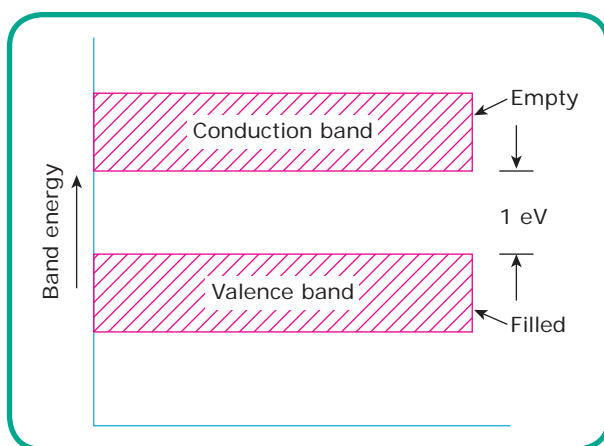

Figure 3.16 Energy band of semiconductor
- c) **Semiconductors:** Semiconductors (e.g. Germanium, Silicon, Graphene, etc.) are those substances whose electrical property lies in between conductors and insulators. In terms of energy band, the valence band is almost full but the conduction band is empty. Further, the energy gap between valence band and conduction band is very small ( $\approx 1\text{ eV}$ ) as shown in Figure 3.16. Hence, smaller electric field is required to push the electron from the valence band to conduction band.